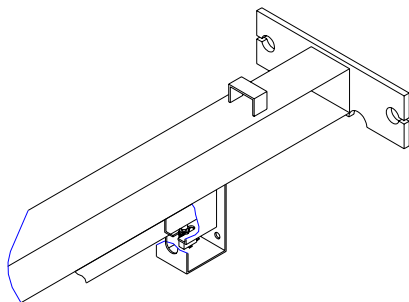

Fig. 10
Using (2) 1/4-20 X 1/2 HHCS and (2) 1/4-20 Flange Lock Nuts attach the overhead switch assembly to the overhead beam as shown in figure 10.